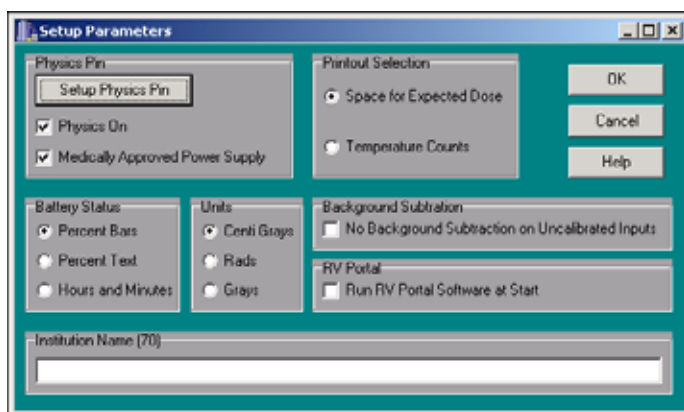

Figure 4-18. Setup parameters dialog box
- 1 Select Parameter Setup from the Setup menu. This opens the Setup Parameters dialog box (Figure 4-18).
- 2** Enter your PIN and click OK. This opens the Setup Parameters dialog box (Figure 4-18).